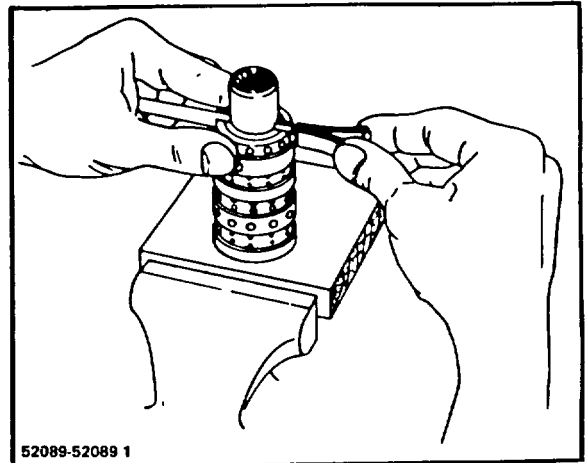

Figure 3-6. Installation Centering Spring Set
3. With the spring slots of the spool and sleeve in line, stand the parts on end (Fig 3-6) and insert the spring installation tool (Char-Lynn P/N 600057) through the slots in both parts.